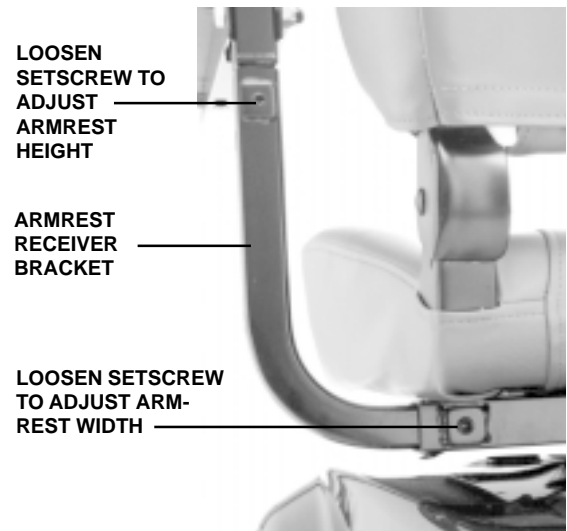

Figure 15. Armrest Width/Height Adjustment
1. Locate the setscrew on the armrest receiver bracket. See figure 15.
1. Loosen the armrest adjustment height setscrew located underneath the armrest. See figure 15.